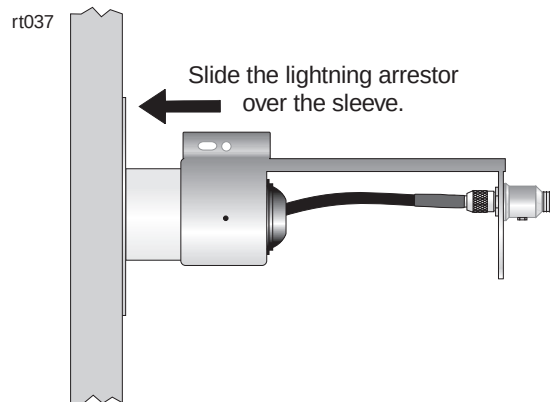

Figure 4-9 Attaching the arrestor assembly to the sleeve
1. Slide the lightning arrestor over the sleeve, as shown in figure 4-9.